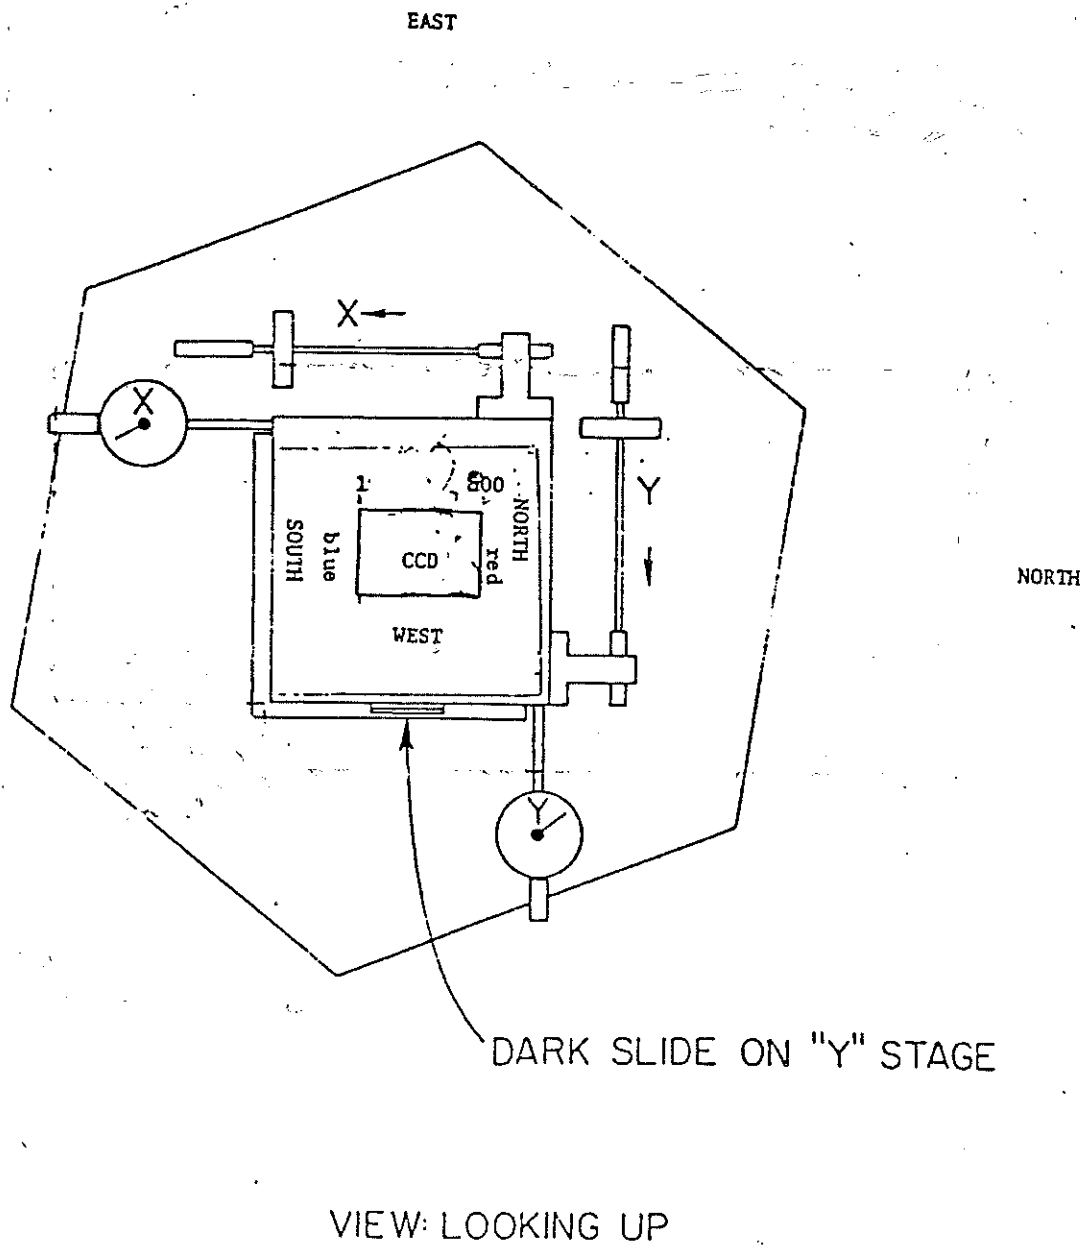

Figure 3 X-Y Stage for Grism Spectrograph
h. X-Y Stage Assembly. The stage carries the chip in its dewar, the LN (used generically to mean liquid nitrogen or liquid air) reservoir, and some of the readout electronics. (See Figure 3, next page)
(1) Manual dark slide. The dark slide is an integral part of the stage assembly. It is usually left open when actively using the CCD, and closed during the daytime, or when the spectrograph is open in order to change gratings. It is a red anodized piece of metal that is hard to reach behind the LN reservoir. There is *no* remote indication as to whether it is in or out. The first reminder of it is often a CCD image that is unexpectedly dark. Do not forget to close the dark slide at the end of the night. It is natural to think of it when you refill the dewar.
(2) X-Y stage. The standard set-up for the dewar has the spectrum along columns of the CCD. A movement of the stage in the X direction, parallel to the dispersion, is used to adjust the central wavelength ( $\lambda_c$ ) and/or to position the